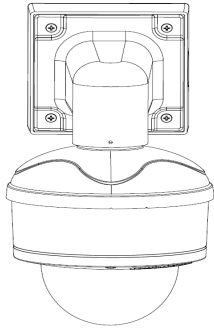

Figure 6
9. Attach the Dome Cover to the MegaDome® G3 camera and fasten securely four captive screws as shown in Figure 6.